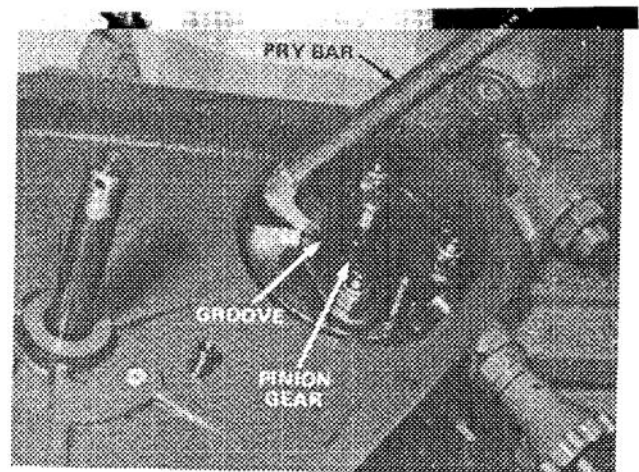

Figure 28
11. Remove nut securing pinion gear (Fig. 28). Insert a pry bar in groove provided and pry off reel drive gear. Remove Woodruff key from keyway in reel shaft.